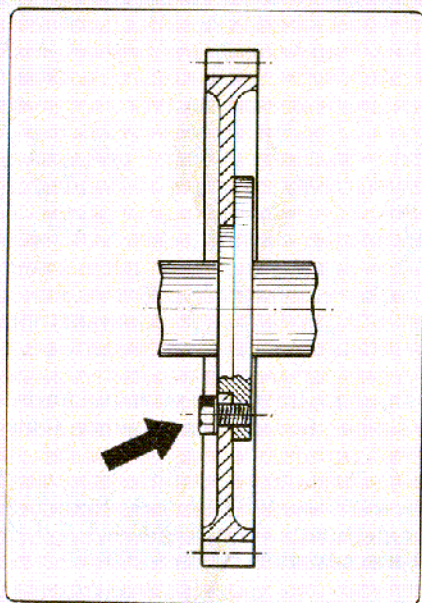

Fig. 18
- 8) In the case that the semi-crankcase camshaft must be disassembled, first of all remove the timing system gear by unscrewing the four screws fastening it (fig. 18).